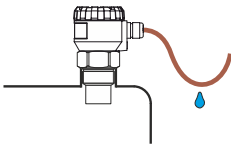

Fig. 14: Prevention to avoid intrusion of humidity
- It is suitable to run the cable under a cable bushing (obliquely down in slack) according to Fig. 14 to prevent penetration of humidity. Then the rain and condensing water can flow off freely.